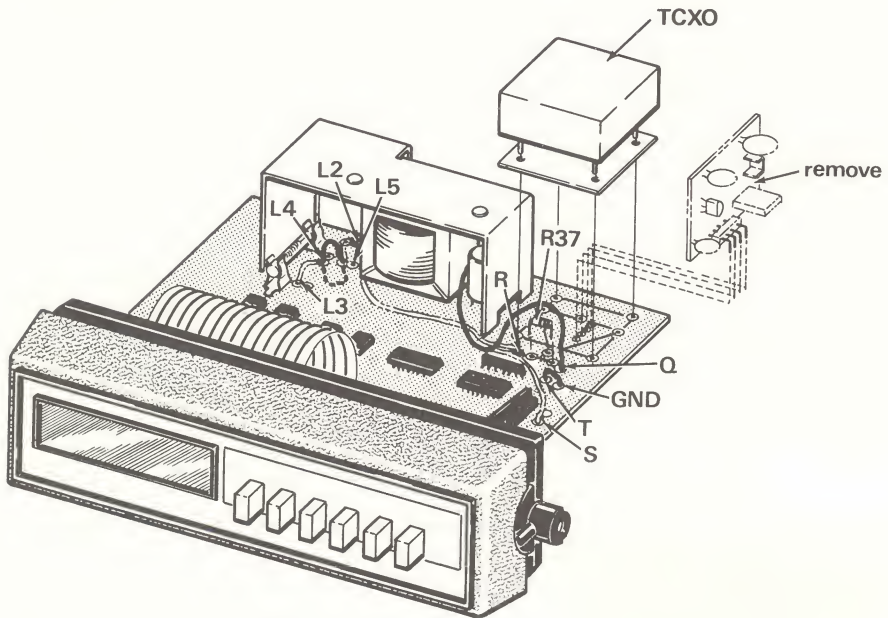

Fig. 18. TXCO installation.
2. Procedure (Refer to Fig. 18).